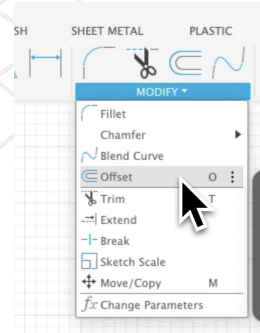
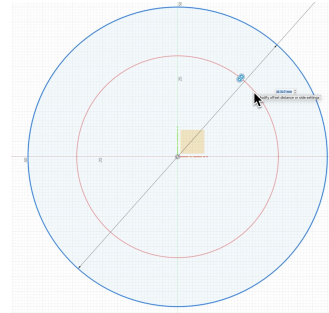

Figure 1.2
Figure 1.3
- **Offset Method:** First, draw the outer circle. Next, select the '**Offset**' tool underneath '**Modify**' to create an inner circle at a fixed distance (see Figure 1.2). Then click the outer circle, drag it inward, and enter your desired offset distance (see Figure 1.3). In this method, it automatically creates the constraint of having them concentric.